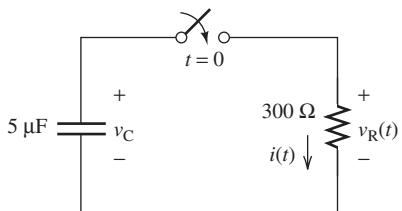

FIGURE P5.6 Circuit for Problem 5.6.
- 5.6** (A) Find an expression for $i(t)$ in Figure P5.6. $v_C(0) = 5$ V. (The switch closes at $t = 0$.)